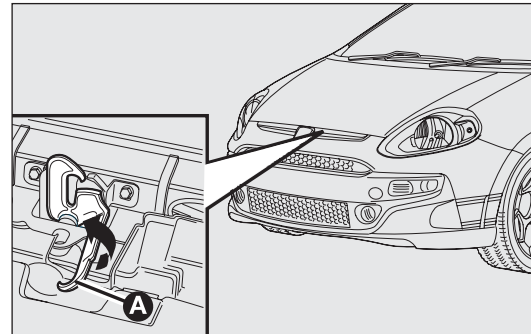

fig. 84
- pull the lever A-fig. 84 as shown in the figure;